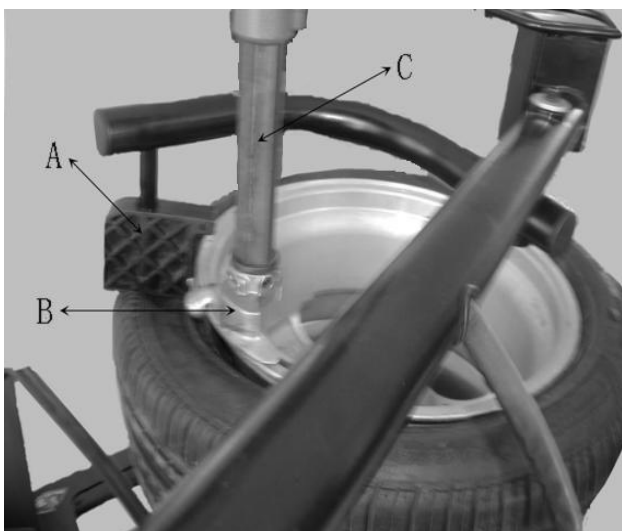

Fig 7-12
7.2.3 Use the press (fig7-12 A) to press down the tire section by section rim detached from the mouth and use the brush to spread the lubricant on edge of the lip. Position the demount tool head (fig7-12 B) in the demount position. Place the press beside of the demount tool to press down the lip and insert the crowbar below the demount tool in between the rim and lip (fig7-13). Lift up the press and move it to the position opposite to the demount tool and press the lip into the tire detach groove and then rotate the crowbar to lift the lip onto the demount tool (fig7-14). Rotate the turntable to detach the upper lip.